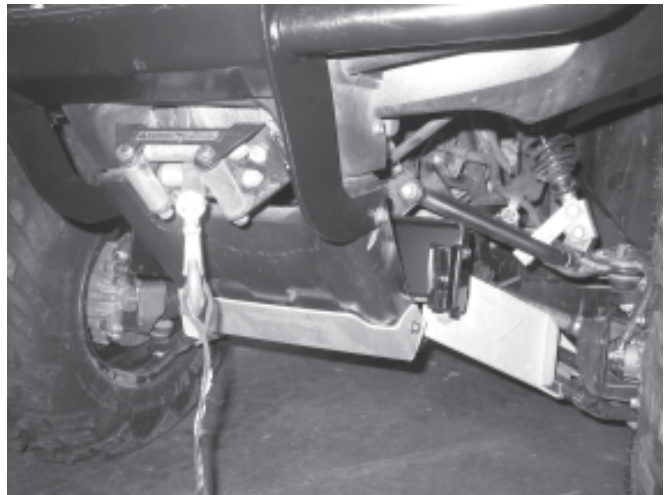

Figure 5
5. Figure 5 shows a completed installation with front plow mount bolted in place.